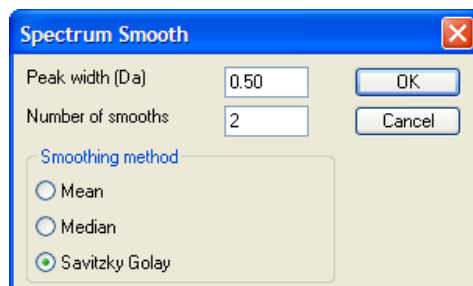

Figure 36 - Spectrum smooth parameters
13. Click **Process > Smooth** and specify the parameters shown in Figure 36, then click **OK**.